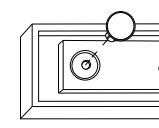
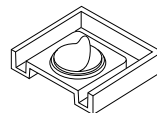

FIG. 2
FIG. 3
3. Insert new PresLock into holder. (FIG. 2)
4. Peel paper backing from adhesive on PresLock. (FIG. 3)
**DO NOT PULL PINS OUTWARD**, as they may break off or become separated from holder (see FIG. 2).
When removing, **DO NOT PULL OUT AT A SEVERE ANGLE**, as the pins may break off or the fabric may be damaged (see FIG. 2). For correct removal, simply lift holder straight up (see FIG. 3).